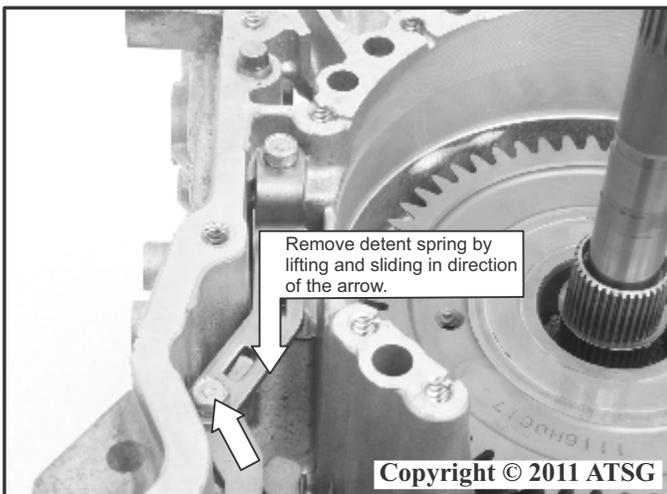

Figure 40
51. Remove the two manual valve detent lever spring retaining bolts as shown in Figure 40.
52. Remove the manual valve detent lever spring by lifting and sliding in direction of the arrow as shown in Figure 40.